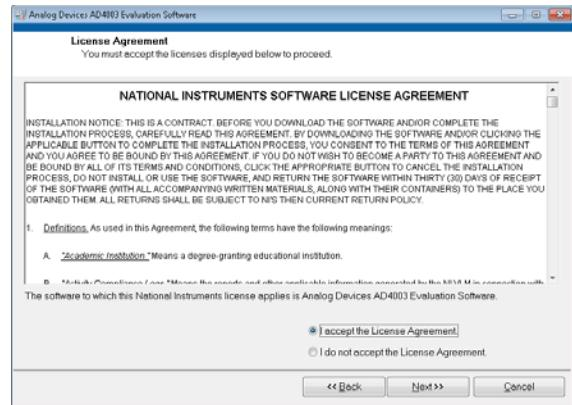

Figure 6. License Agreement Window
3. Accept the National Instruments software license agreement and click **Next** (see Figure 6).